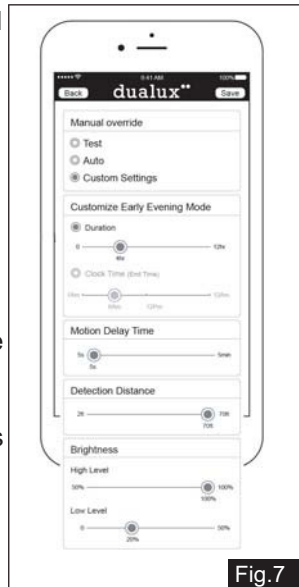

Fig.7
3. The sensor detects movement across a detection range of 240 degrees. (See Fig.7)